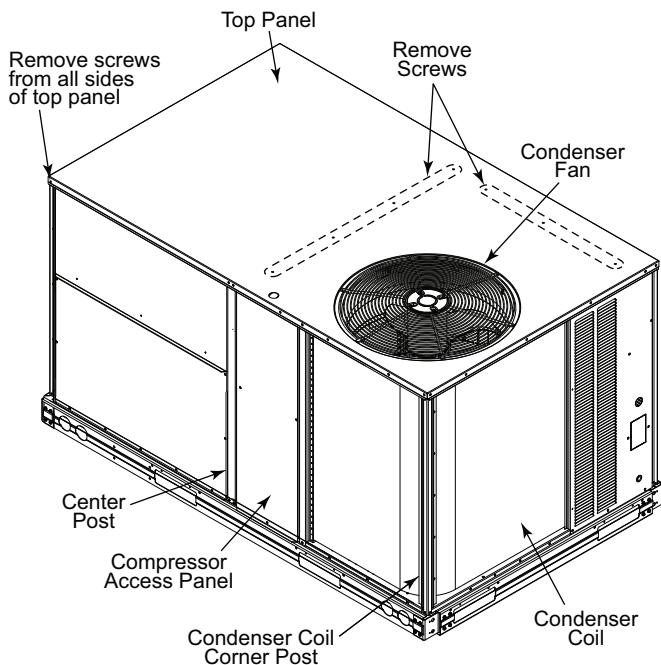

Fig. 15 – Location of Screws and Coil Corner Post
2. Remove all screws from the top panel except the screws securing the condenser fan to the top panel. See Fig. 15.